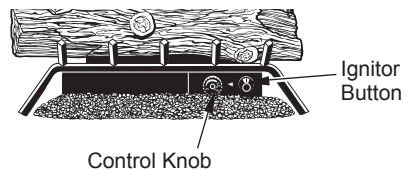

Figure 25 - Control Knob and Ignitor Button Location
4. Wait five (5) minutes to clear out any gas. Then smell for gas, including near the floor. If you smell gas, STOP! Follow "B" in the safety information in column 2, page 18. If you don't smell gas, go to the next step.
5. Turn control knob counterclockwise ↻ to the PILOT position. Press in control knob for five (5) seconds (see Figure 25).